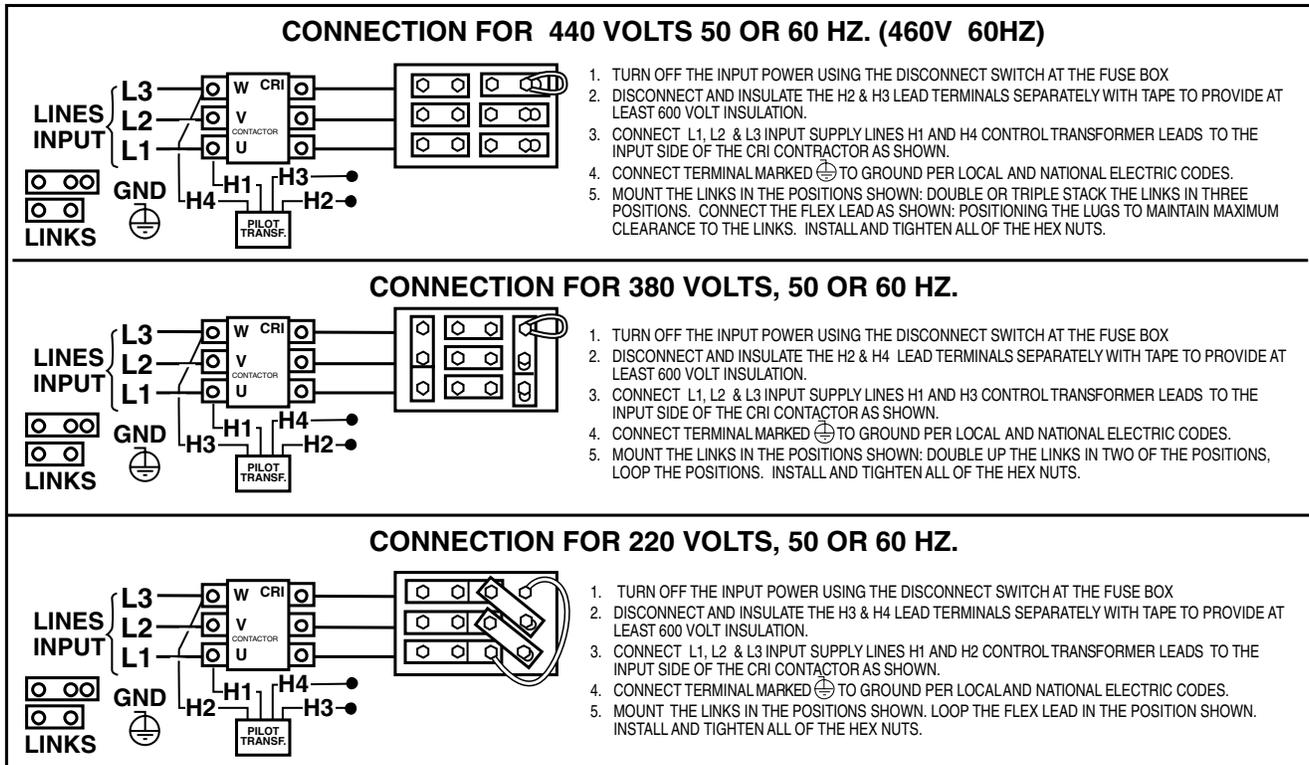

FIGURE A.5-Reconnect Panel Board Positions for 220/380/440 VAC Machines
2. For 220/380/460, see Figure A.5. (M15010)